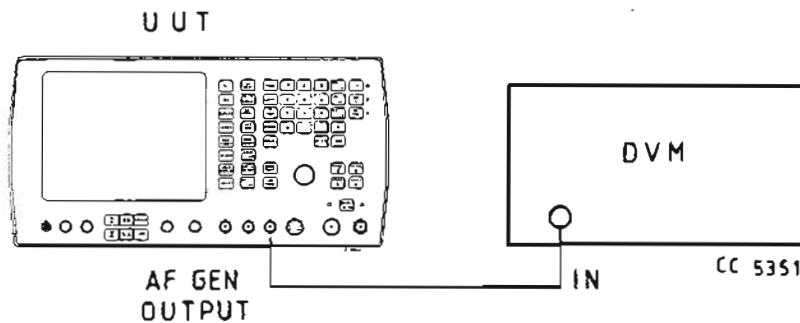

Fig. 12 Test equipment connections for a.f. generator output level accuracy performance checks
- (1) Connect the equipment as shown in Fig. 12.